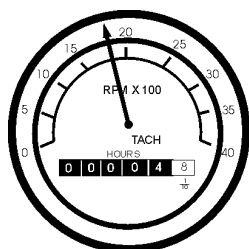

Figure 54. Engine Tachometer Gauge
17. The **tachometer gauge** (Figure 54) will indicate the speed of the engine when the generator is operating. Under normal operating conditions this speed is approximately 1800 RPM's.